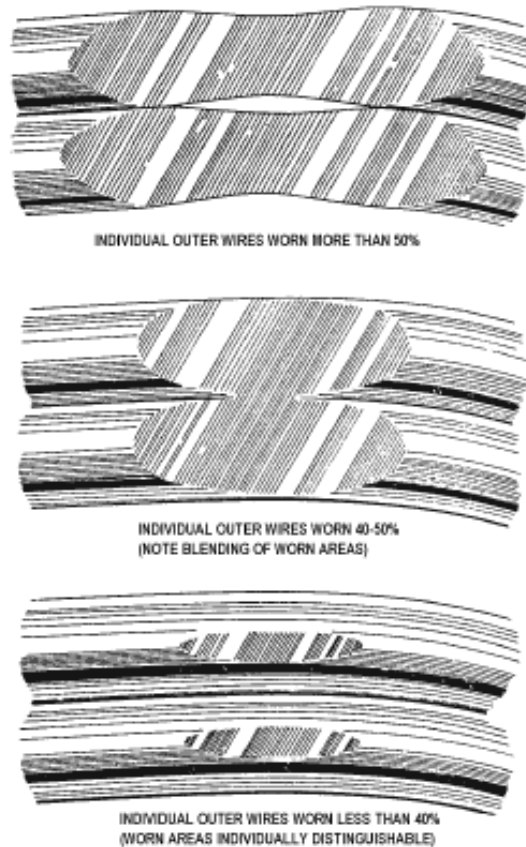

Figure 15 *Cable Wear Patterns.*
- Replace cable when worn areas on the individual wires in each strand appear 40% or more (as depicted in Figure 15).